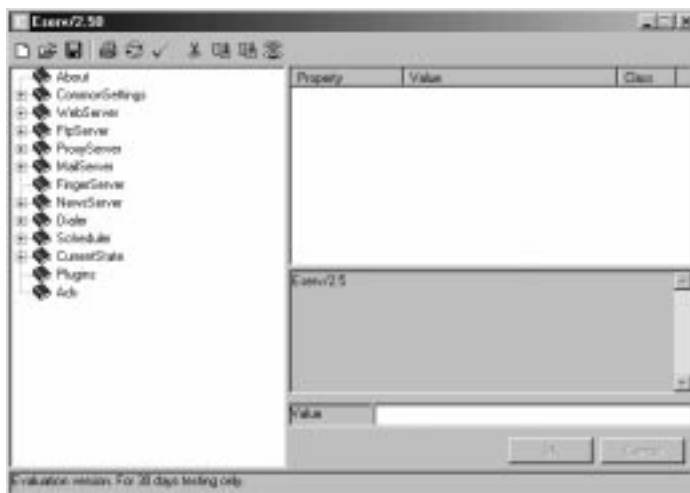

Figure 3-8. EServ Application Window
4. Click Start, Programs, Eserv2, Run Eserv2 Server. This opens the Eserv/2.50 application window. See Figure 3-8.